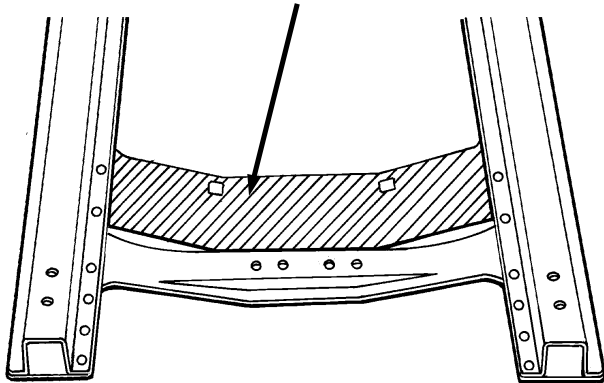
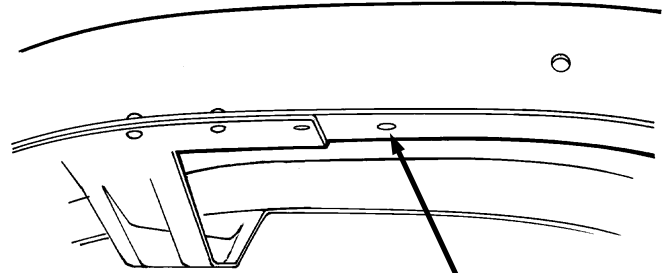

Figure 1
Figure 2
3. The stock front crossmember must be trimmed next. Refer to Figure 1 to see what to trim off. A cutting torch works best for this; however, a saw or plasma cutter could be used. In addition, the flanges on the underside of the frame rails which were attached to the trimmed off crossmember section should be trimmed off also. Note that the frame shown is a parallel leaf, solid axle type front end. The knee action front crossmember should be trimmed in a similar manner. See Figure 2.